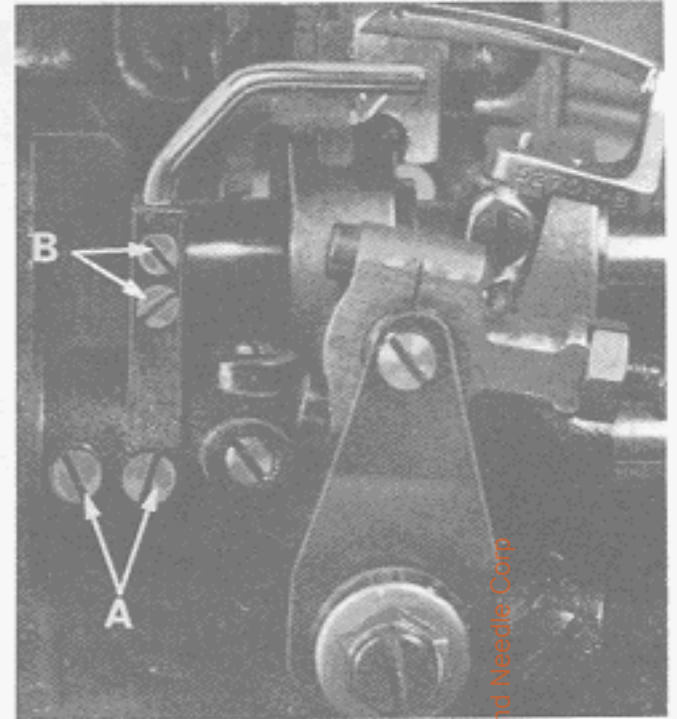

Fig. 11
Set the front needle guard so that it pushes the left needle back toward the path of the looper as it moves behind the needle. The looper may brush but not pick at the left needle. It should be set as low as possible, yet have its vertical face push the left needle until the point of the looper is just past the left side of the left needle. The front needle guard should not contact the rear needle guard or right needle at any time. To move guard forward or backward, merely loosen screws (A, Fig. 11), move needle guard as required and retighten screws. To raise, lower or rotate needle guard, loosen screws (B), move guard and retighten screws after guard is properly set.